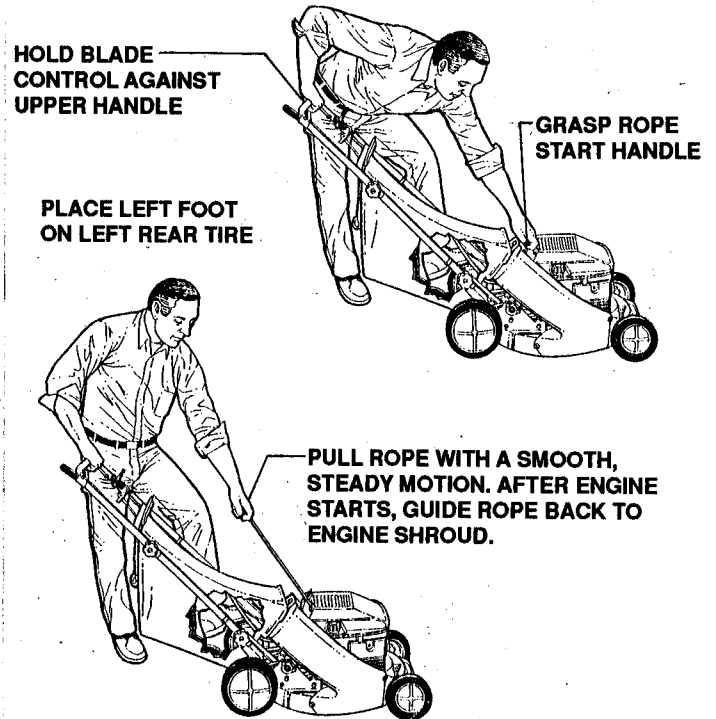

FIGURE 2.2
4. Bend at waist to reach rope start handle. See Figure 2.2.